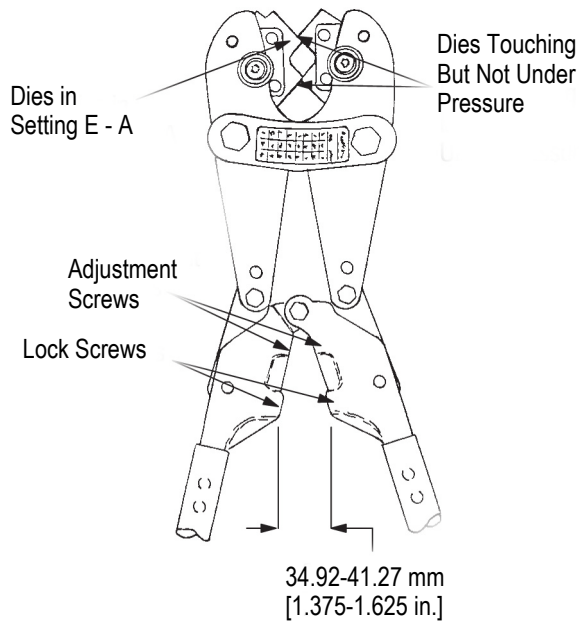

Figure 10
B. Handle Adjustment Inspection (Figure 10)
4. Measure the distance between the tool handles, as shown in Figure 10. The measurement must be between 34.92 and 41.27 mm [1.375 and 1.625 in.]. If the adjustment does not fall within this range, the adjustment must be tightened or loosened as necessary.
- d. Tighten both lock (LOCK) screws. Figure 10